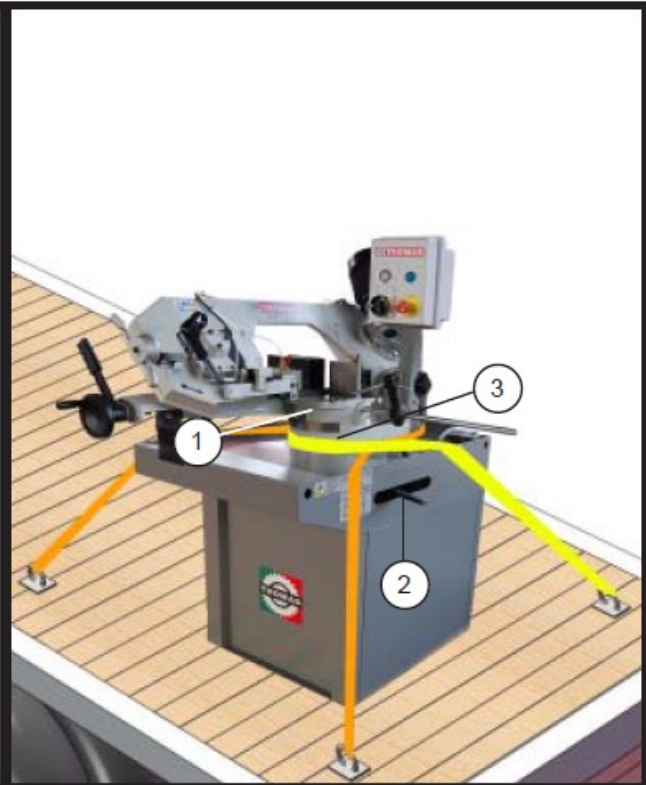

Fig. 3-9
- b) Insert the straps under the vice base (fig. 3-9).